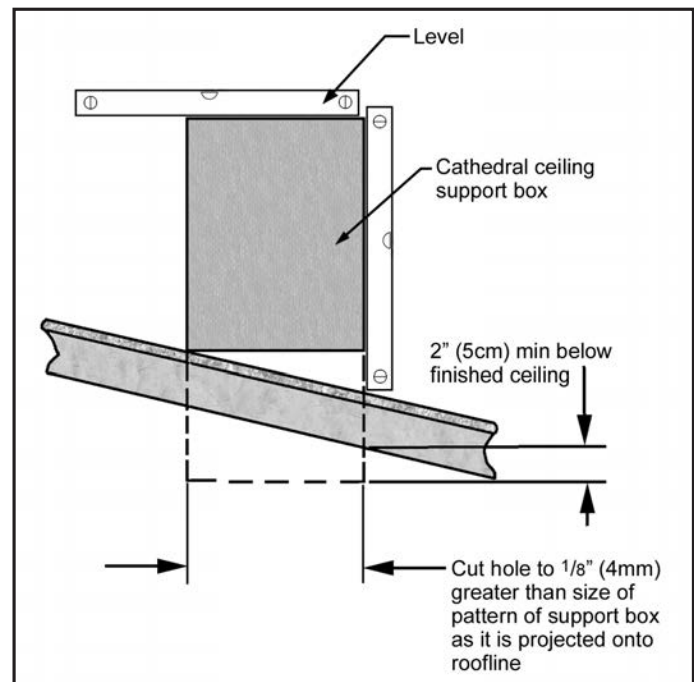

Figure 34: Cathedral Ceiling Support Box Leveling.
4. Lower the "Support Box" through the hole in the roof until the bottom of the "Support Box" protrudes at least 2 inches (5 cm) below the ceiling. Align the "Support Box" both vertically and horizontally with a level as shown in Figure 34. Temporarily tack the "Support Box" in the place through the inside walls and into the roof sheathing.